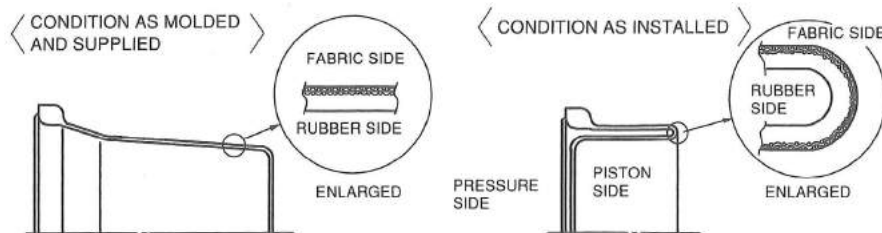

Fig.4
a) When replacing BF Diaphragm, be sure BF Diaphragm is installed so that the fabric side comes in contact with the side walls of Cylinder and Piston and the rubber side faces inside the annular convolution (pressure side).(Fig.4)